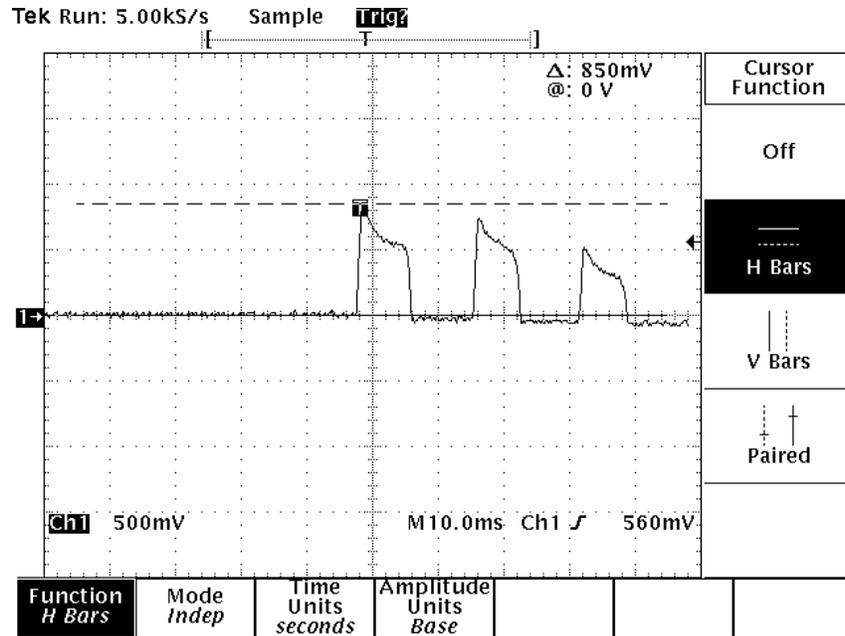

Figure 5 – In-Rush Current
- 7.8.8 The in-rush current is the peak level of the highest of the in-rush impulses multiplied by the current to voltage ratio as stated on the current monitor. This ratio is typically 0.1 volt per ampere. Refer to Figure 5. Record the in-rush current.